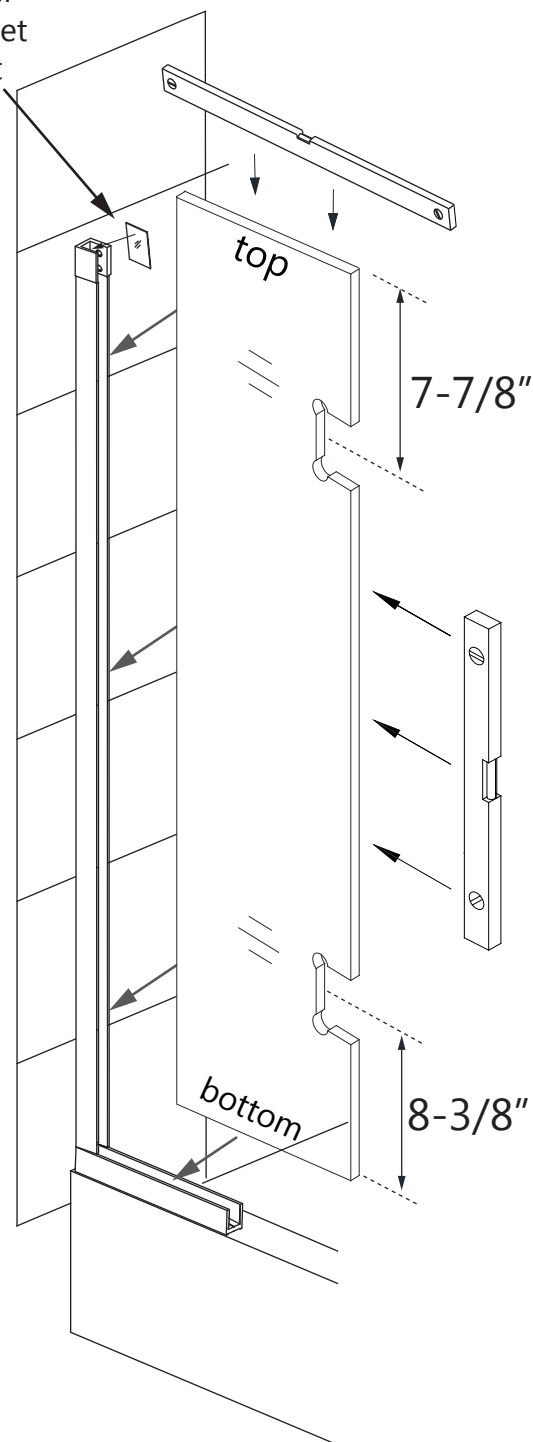

Fig 10
- 8.** Install the **Hinge Panel Glass (#32)** into the U-channel, checking for level and plumb. Install the gasket into the **Hinge Panel Glass Bracket.** **(Note:** Make sure the top of the hinge panel glass is at the top). **(Fig 10)**